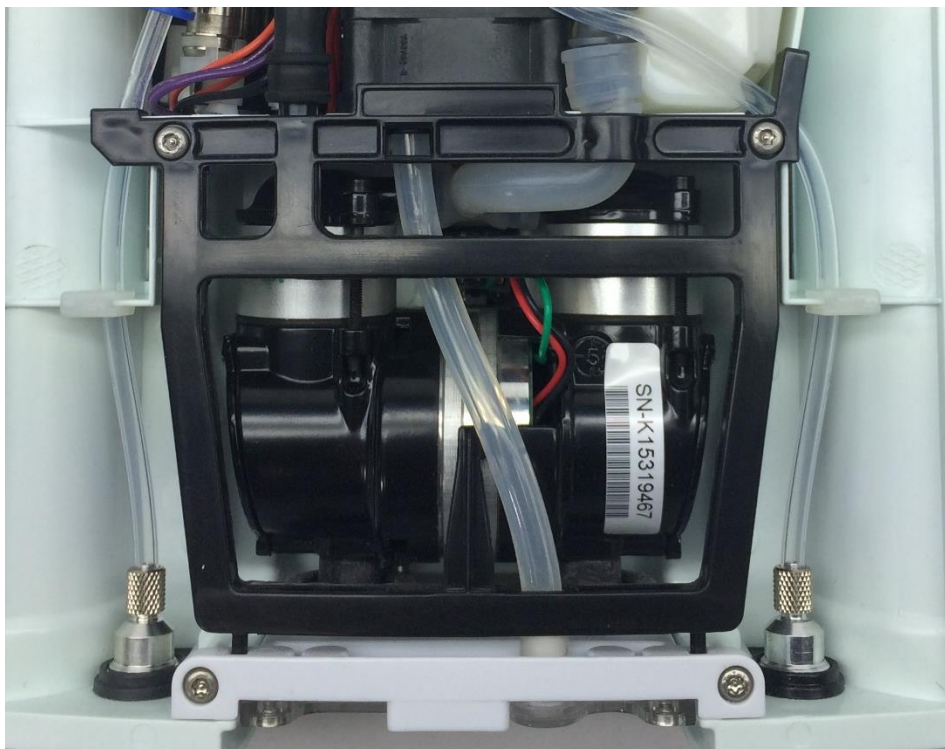

Figure 10: Properly installed compressor
1. Place the new compressor in the space in the chassis and align the compressor feet with the molded mounts on the filter body (Figure 10). Reinstall the two screws that connect the compressor to the filter body, lightly tightening by hand (Figure 5).